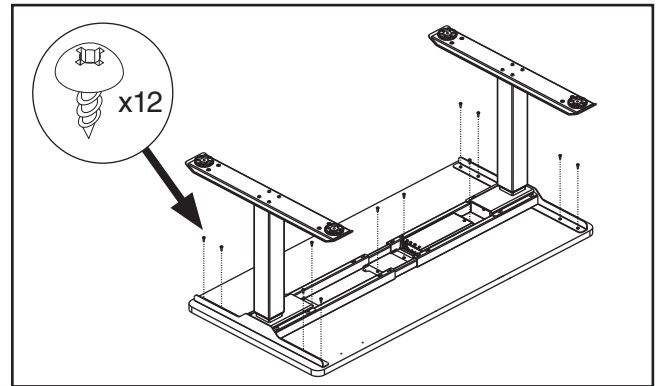

Figure 7. Installing tabletop.
7. Center workbench legs on table (front-to-back and side-to-side), then attach legs to table with (12) 4.2 x 19 tap screws (see **Figure 7**).